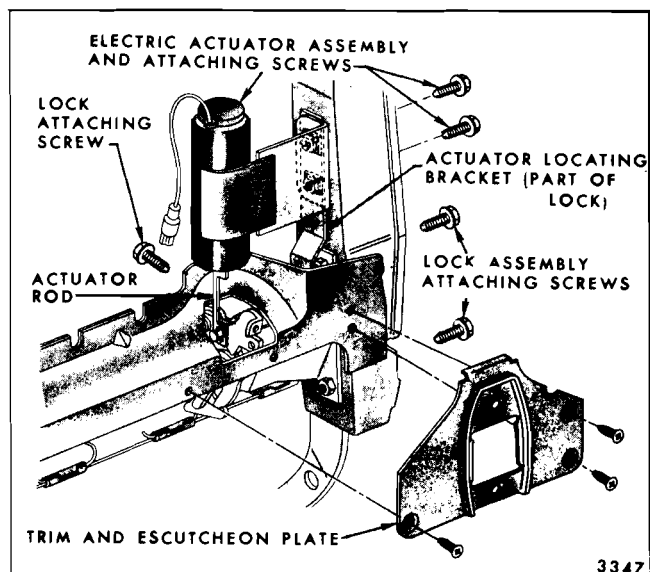

Fig. 15-35—Seat Back Lock and Electric Acuator Assemblies—Cadillac Two-Door Styles with Standard Full Width Seats
2. To remove seat back lock disconnect actuator feed wire connector, remove actuator attaching screws and disengage actuator rod at lock (Fig. 15-35).
3. To remove lock assembly, remove electric actuator assembly, as described in Step #2; then, remove lock attaching screws (Fig. 15-35) and remove lock assembly.